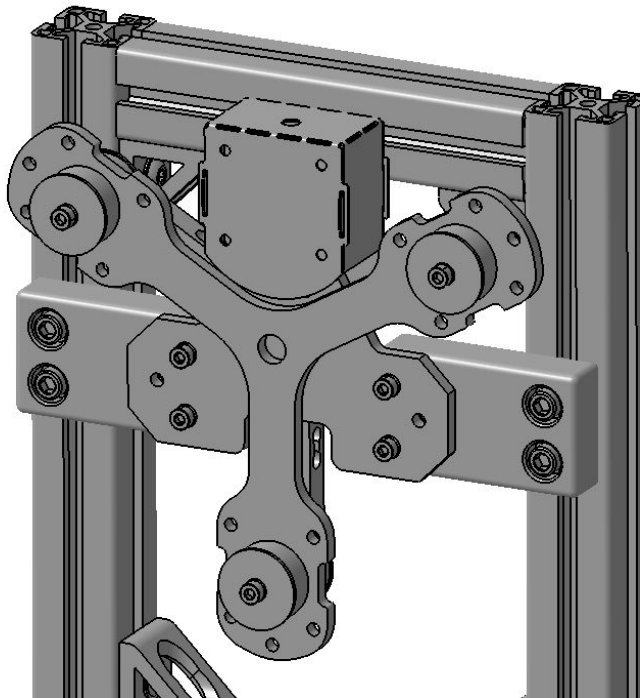

Fig. 4.31: Use four M5 - 25 mm screws to attach the LMU onto the stand (rectangular block).
- ❑ Use four M5 socket head screws - 25 mm (#YBJA) and four M5 split lock washers (#T9DQ) to attach the load measurement unit completely, using the two upper and lower holes, as shown in Fig. 4.31.